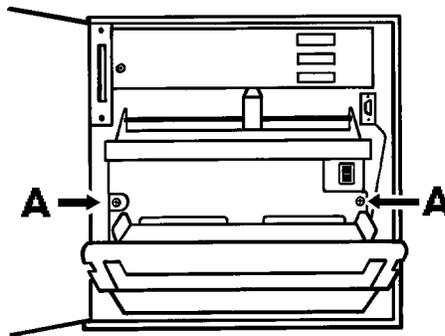

Figure 1 Writing system access
2. With the paper cassette open, locate the two (captive) securing screws ('A' in figure 1), and undo them.